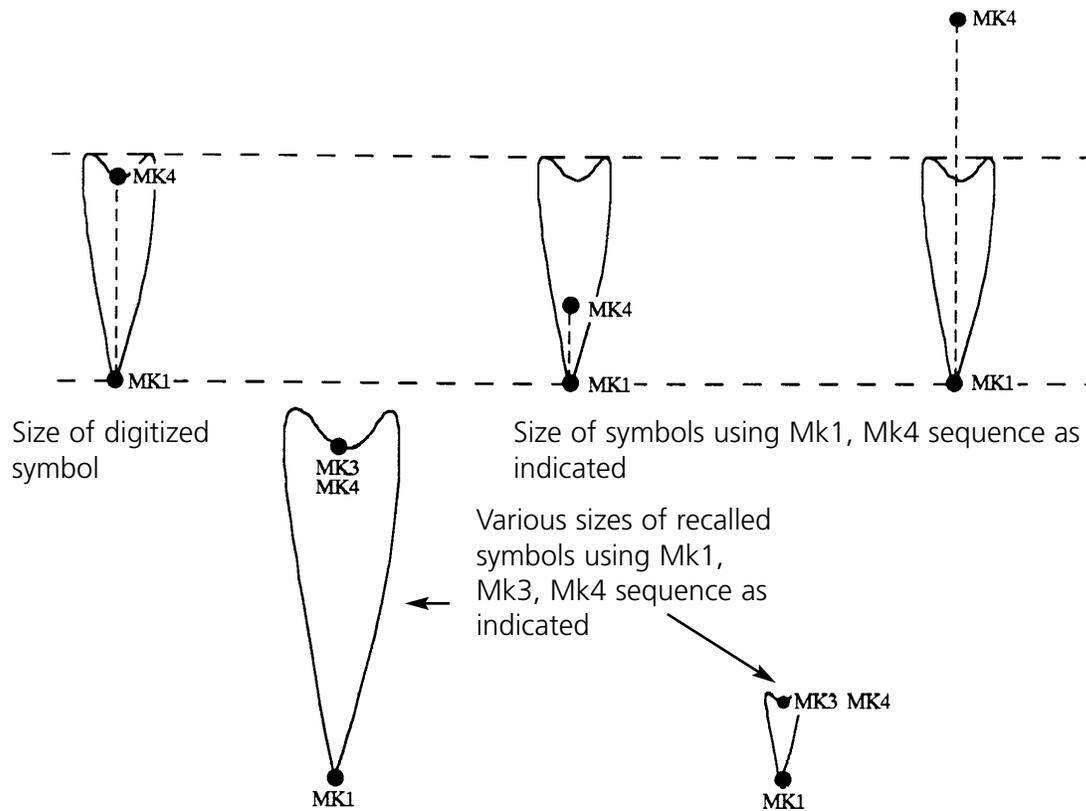

Figure 4-27
3. Now, before you enter the Mk4 for completing the sequence for positioning the symbol in the location and orientation, enter a Mk3 to indicate the size you want the symbol. The distance between the Mk1 and the Mk3, in relation to the originally digitized Mk1, Mk4 combination, will determine the size for the current symbol insertion. (See the illustrating examples in Figure 4-27.)